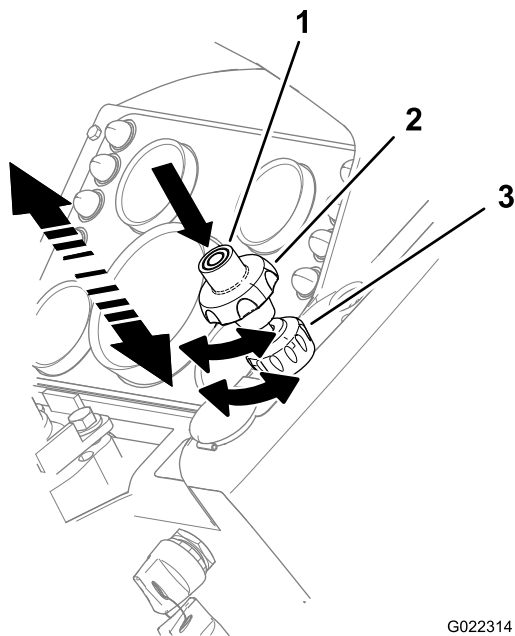

Figure 23
- To **increase** the engine speed, push the throttle center button while **pulling out** the throttle (Figure 23).